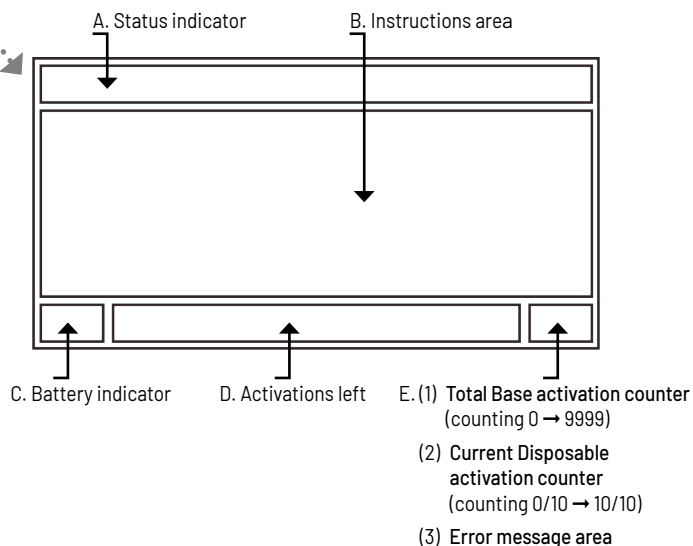

Fig. 2 (Base Display Screen)
- PLASMASHield® Base (A)
- Charger Input Port (1)
- Display Screen (2) – see Fig. 2 for details
- Disposable Inlet (3)
- Charger (B)
- AC Plug (4)
- Charger (5)
Always check the Base battery level before use. This appears on the Base Display Screen (see Fig. 2, C).
This appears on the Base Display Screen (see Fig. 2, A).